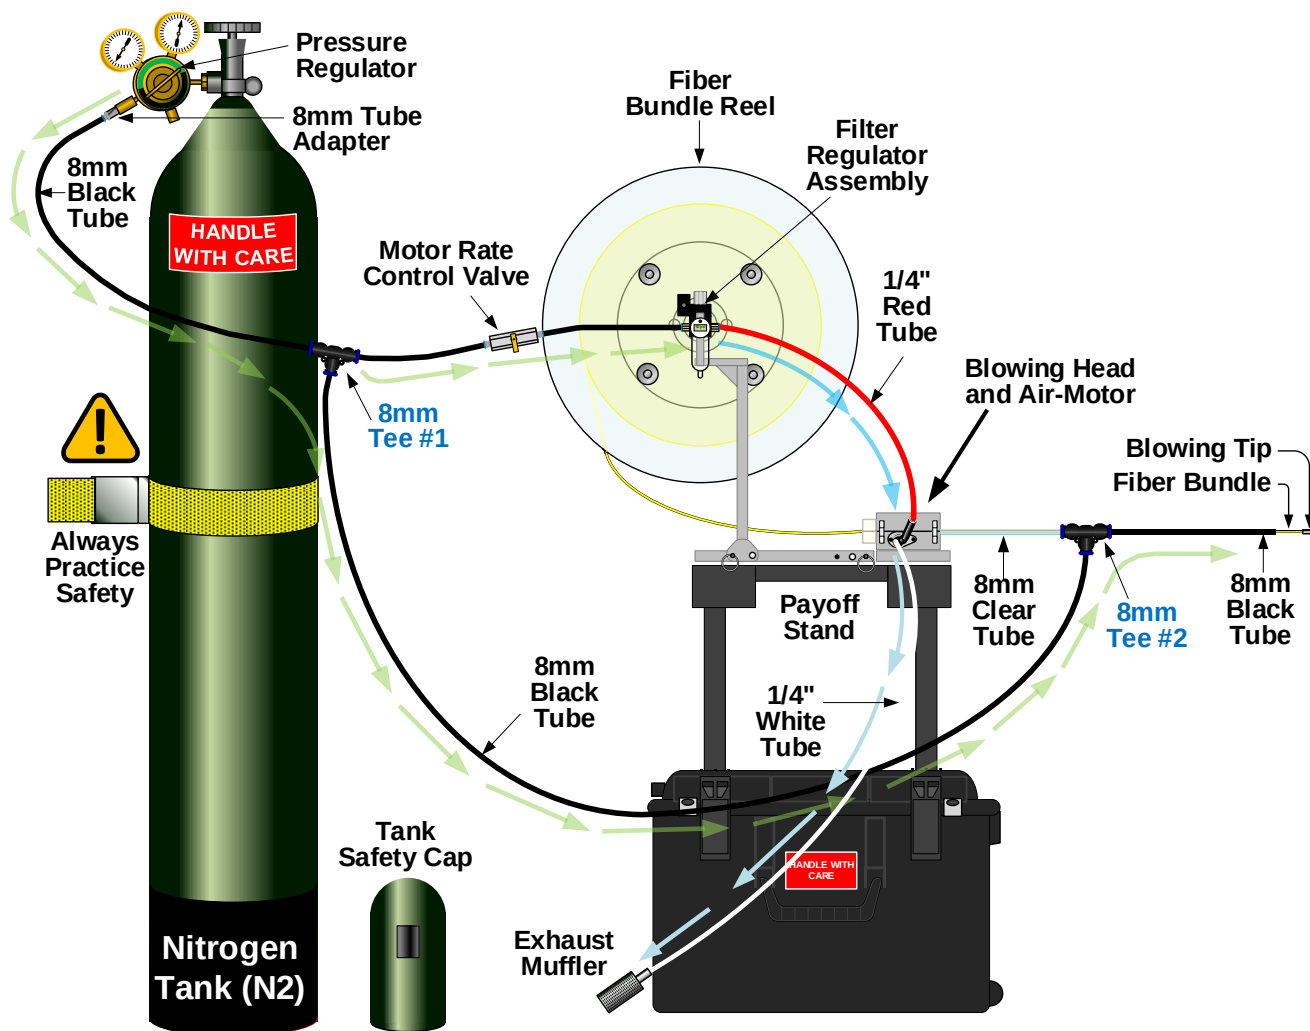

Figure 61
14.5 See Fig. 61 for the **Current** Transit Case design.